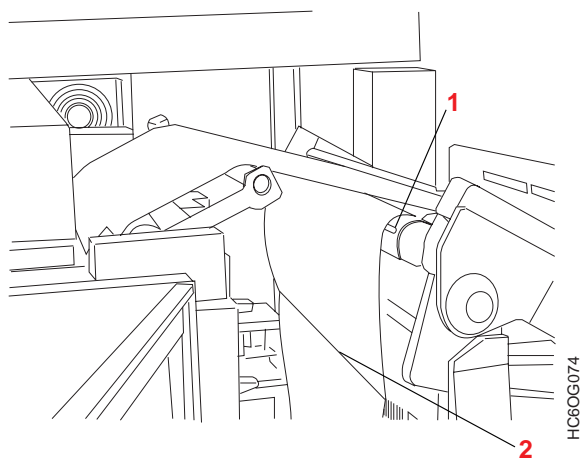

Figure 36. Reestablishing Forms Alignment
3. Use the **Forms Feed** switches on the printer control panel to align the form perforation of the first full page with the correct length alignment mark on the lower tractors. See Figure 36 for details.